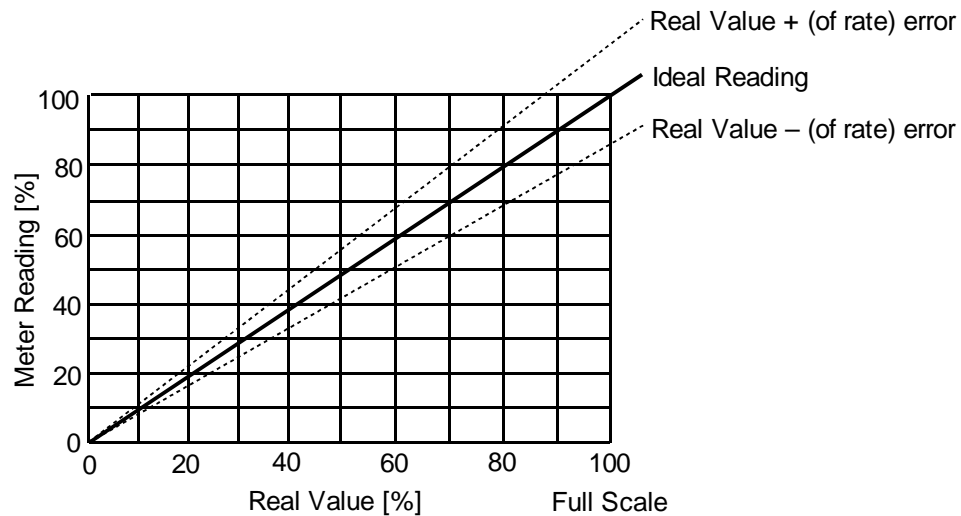

Fig. 2 Meter Reading when specified (of rate) error
**Fig. 2** shows a meter reading when the error of the meter is specified as percents **of rate**. The meter reading will be between the dotted lines.
**The meter on Fig. 2 will measure much more accurately when the flow rate is below full scale. It will be times more accurate with flow rate times lower than full scale.**